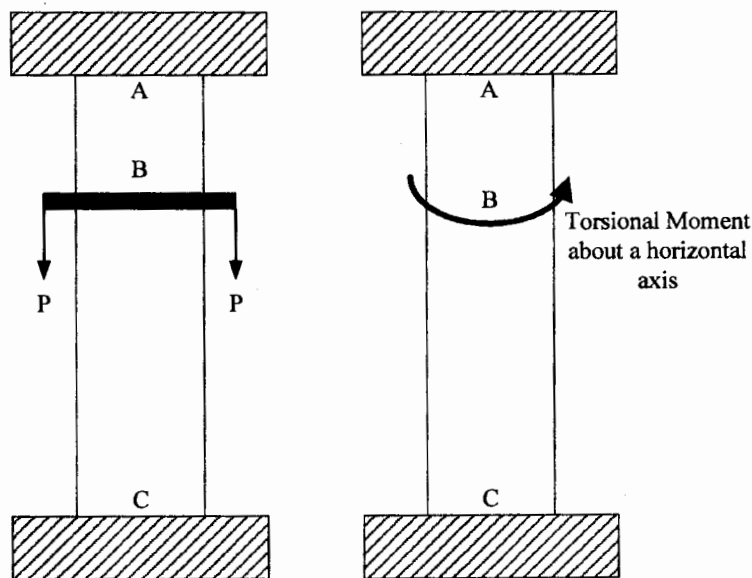

Figure 3: 2 identical columns subjected to different applied loadings
4. The pictures in figure 3's illustrate the concept from the beam subjected to pure bending moment to resulting stress pattern and arbitrary cross sectional area. Prove that $\sigma = \frac{(BM)}{I} y$. (40 marks)